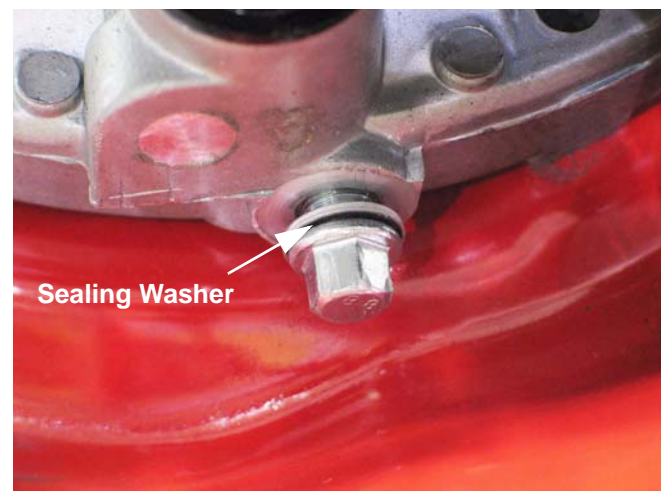

Figure 1.5
1. The first method of draining the oil is by removing the drain plug located at the base of the filler tube / dipstick tube, using a 10mm wrench. See Figure 1.5.